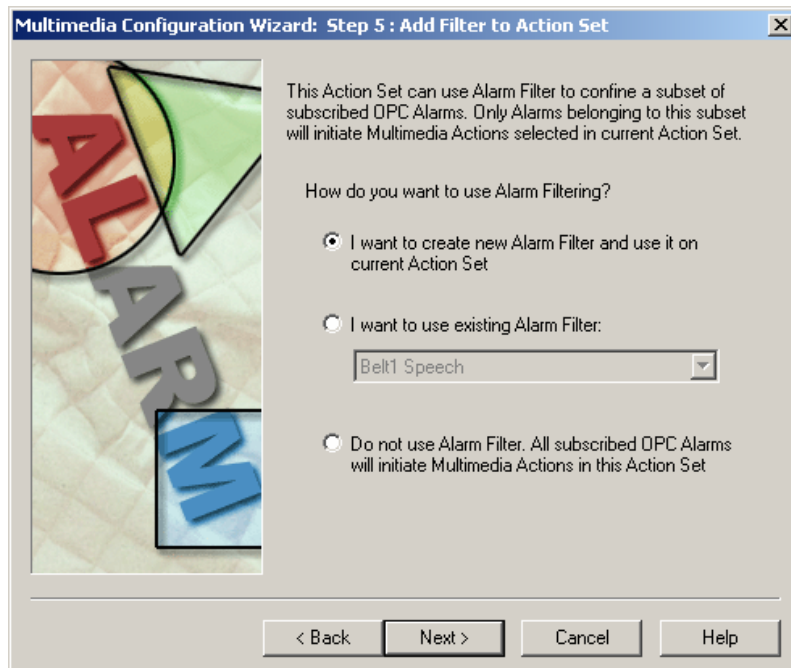

Figure 3.6. Step 5: Adding a Filter to an Alarm Action Set
5. The next step is to create or specify a filter for your action set, as shown in **Figure 3.6**. If you wish to use an existing filter, simply select the appropriate option button and pick from the list of existing filters provided. To create a new filter, select the first option and click **Next**. If you have chosen an existing filter, or if you have chosen not to use a filter at all, the Wizard will skip to Step 7.